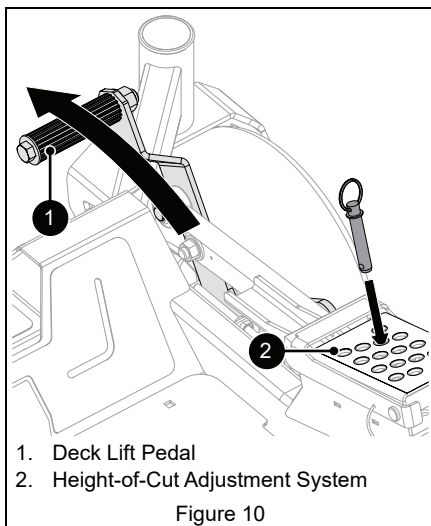

Figure 10
5. Set cutting height. See Figure 10.